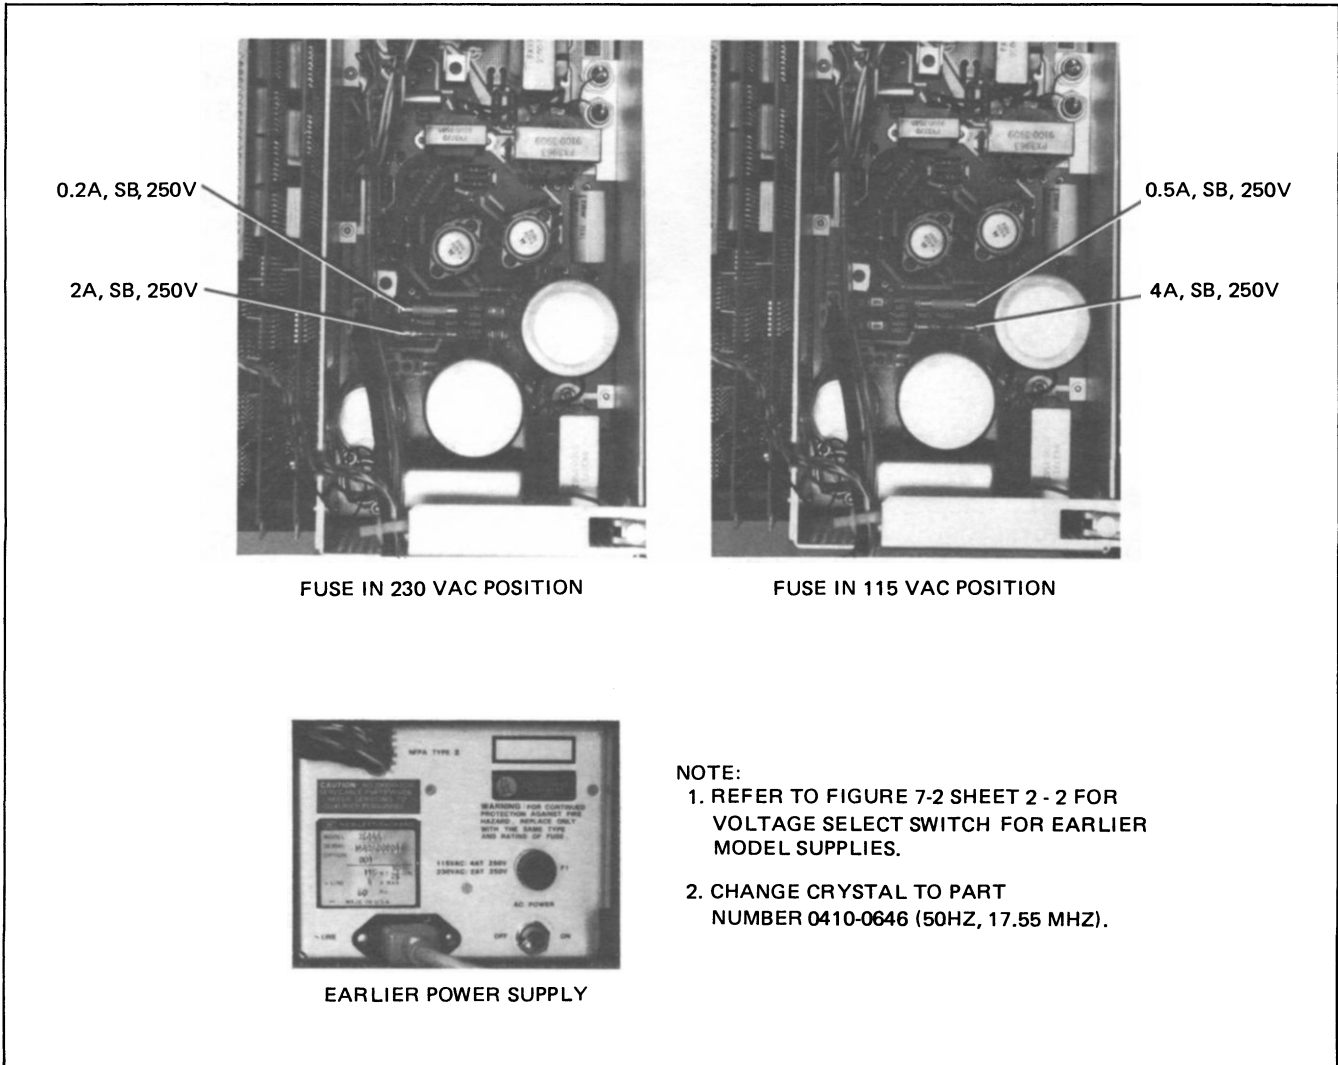

Figure 7-4. Fuse Positions for 115 VAC and 230 VAC Line Voltage
3. () Select the operating voltage by inserting the proper fuses into the appropriate locations shown in figure 7-4. For 115 volts, use a 0.5A, SB, 250V fuse and a 4A, SB, 250V fuse. For 230 volts, use a 0.25A, SB, 250V fuse and a 2A, SB, 250V fuse.